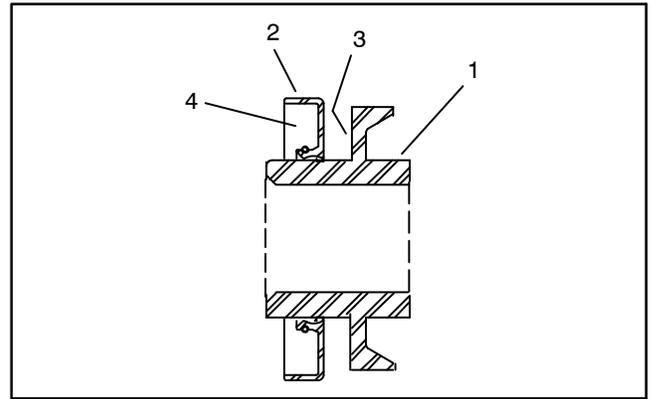

Figure 37
5. Apply a coating of grease to the nut surface to prevent seal damage during seal installation (Fig. 37).
6. Carefully install seals onto bearing lock nuts. Pack the back of the seal 75 to 90% full with #2 grease (Fig. 37).